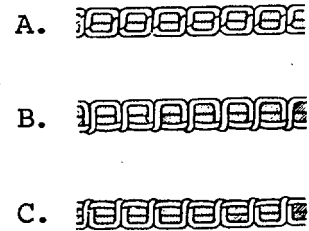

Figure 2-43. Checking Thread Tensions.
k. *Adjusting Tension on Bobbin and Needle Thread (Refer to Figures 2-43 through 2-45).*
(1) Refer to Figure 2-43. Uniform stitching or mending depends on operator skill and proper adjustment. If stitching is properly done and tensions are properly adjusted, the threads should meet and lock in the center of the material as shown by A.